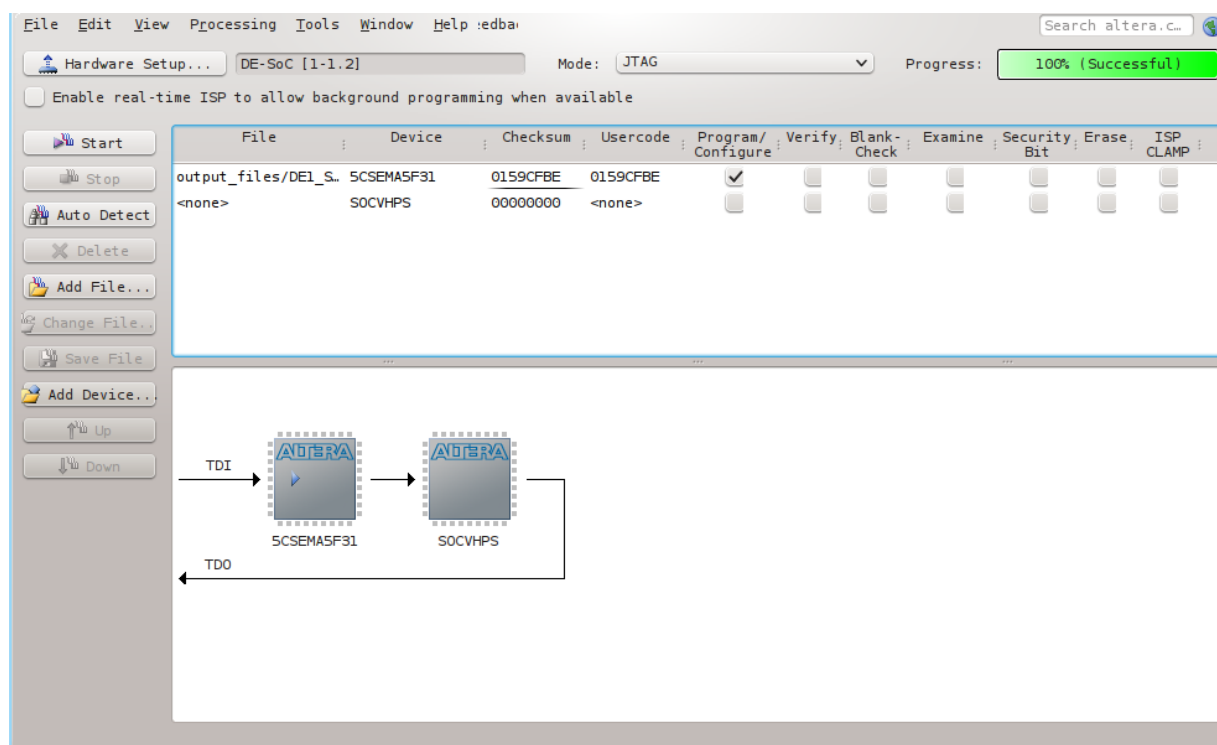

Figure 8-18. Programming the FPGA
38. Enable the “Program/Configure” checkbox for device “5CSEMA5F31”, then press the “Start” button, as shown in Figure 8-18.